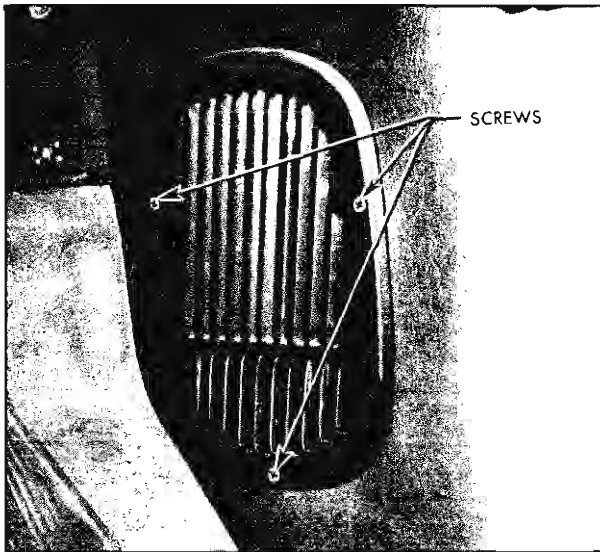

Fig. 11-26 Shroud Side Foundation
1. Remove screws (Fig. 11-26) securing upper and lower end of air inlet grille.